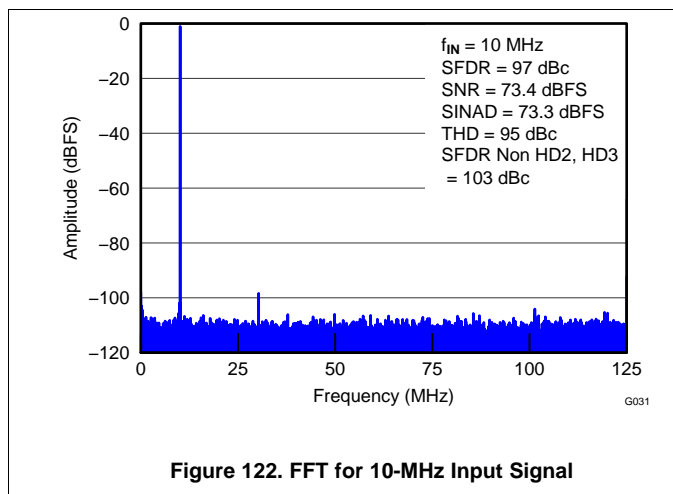

Figure 122. FFT for 10-MHz Input Signal
| Input frequency (IF)                   | 10 MHz ( <a href="#">Figure 122</a> ), 170 MHz ( <a href="#">Figure 123</a> ) |